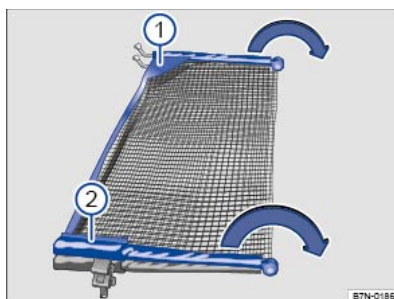

Fig. 184 Folding out the net partition.
Fold out the net partition side rods $\Rightarrow$ *Fig. 184* ① and ② as shown by the arrow until it audibly clicks.